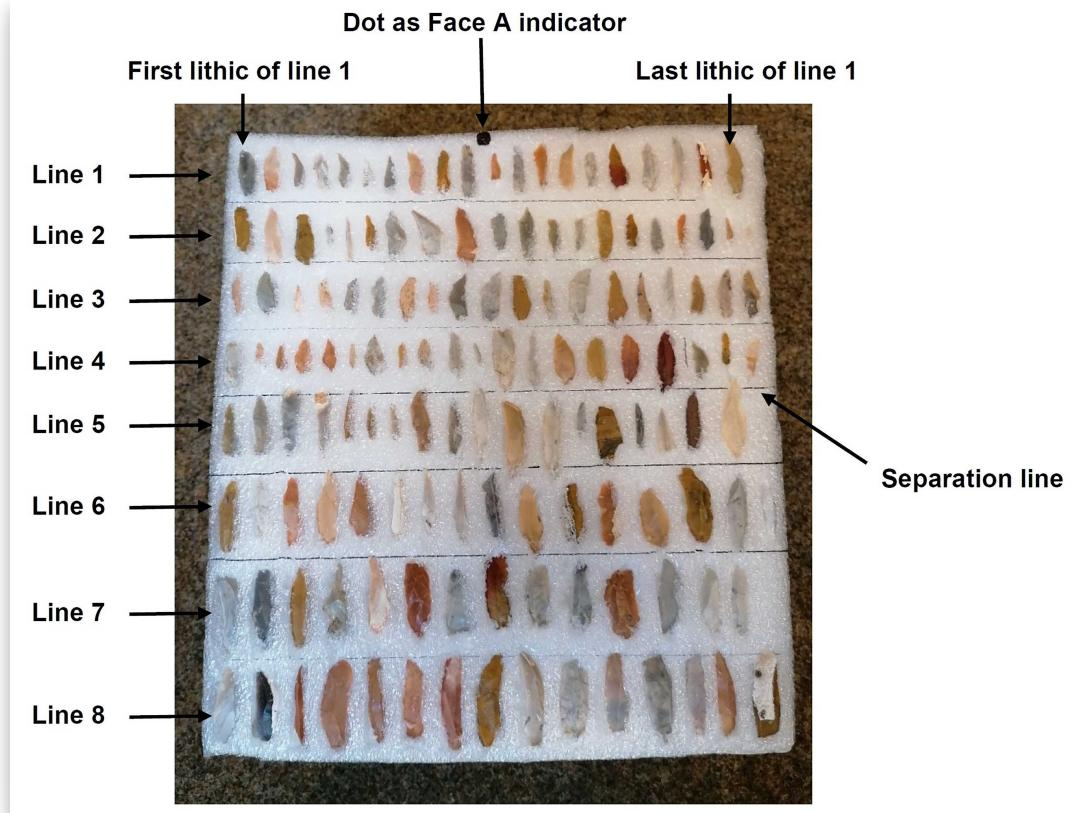

Fig. 1: Overview of a completely filled Styrofoam body (Face A).
6.1 Insert the artefact directly into its hole and immediately document its position in the Styrofoam as described in **Step 6.2** (Fig. 1).